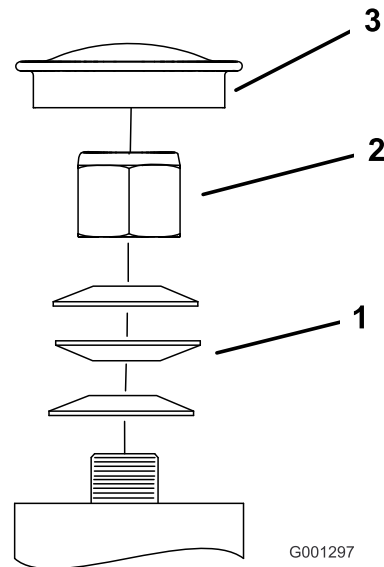

Figure 65
3. Remove the dust cap from caster and tighten lock nut (Figure 65).
4. Tighten the locknut until the spring washers are flat and then back off a 1/4 turn to properly set the pre-load on the bearings (Figure 65).
**Important:** Make sure the spring washers are installed correctly as shown in Figure 65.
5. Install the dust cap (Figure 65).